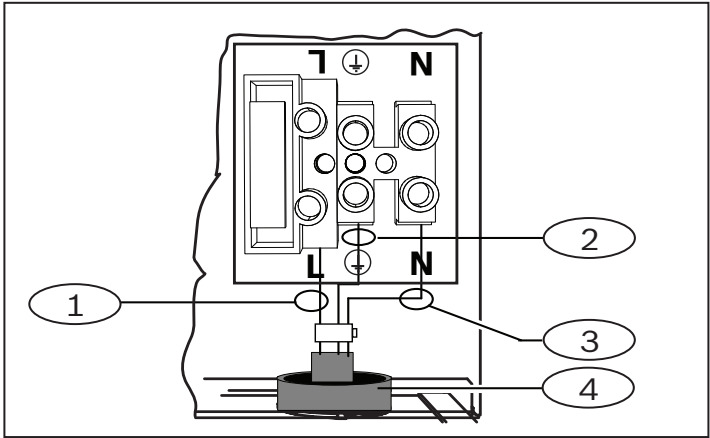

Figure 2.3: Conduit wiring to the fuse block
Installers/Users should not attempt to make electrical connections themselves, but should contact the appropriate certified electrician. To reduce the risk of electrical shock, make sure that all power has been turned off or disconnected before attempting to connect the AC wiring to the D1640-120WI transformer. Do NOT apply power to this unit until all modules and accessories are properly connected. Overcurrent protection for this circuit must comply with Article 760 of the National Electrical Code (NEC) and/or local codes. Use 14 AWG (1.62 mm) or larger wire with 600 volt insulation rating. Make certain that the AC mains circuit breaker is off before wiring any connections between the mains and the D1640-120WI transformer. Connect wiring from the AC mains to the fuse block. Refer to *Figure 2.3*. Failure to comply with this warning may cause personal injury or damage to the equipment.
- Refer to Figure 2.3 for conduit wiring into the fuse block. Installing the wiring: